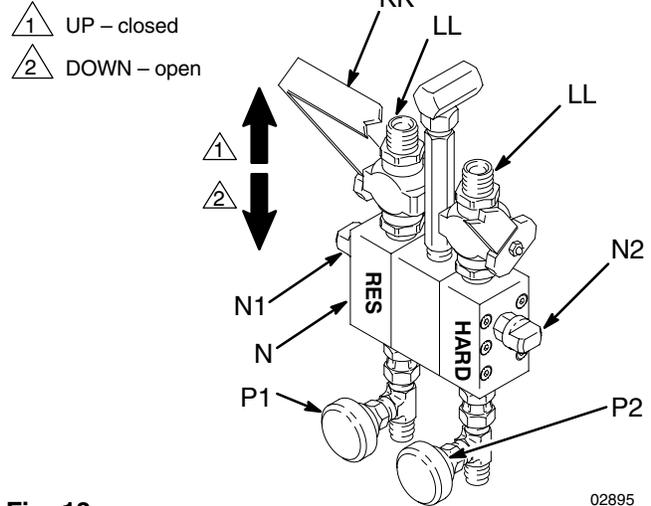

Fig. 13
To open or close the mixer manifold fluid valves (LL) push the handle (KK) down to open and up to close. See Fig. 13.
3. Place a container under the drain valves (P1,P2) of the mixer manifold (N). See Fig. 13.
8. Open the hardener side drain valve (P1). Open the mixer manifold handle (KK). See Fig. 13.
11. Open the hardener solvent flush valve (N1) on the mixer manifold (N). See Fig. 13.
- d. Open the resin solvent flush valve (N2) and repeat Step c, above. See Fig. 13.